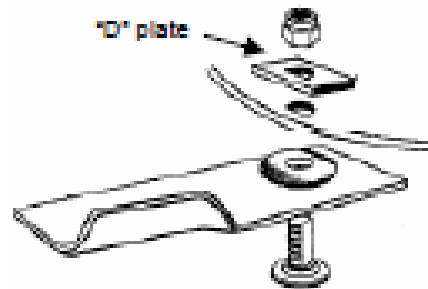

Figure 11. Blade Attachments
NB. Mowers fitted with a circular cutting disc must be fitted with a “D” Plate (as shown in figure 11). These parts are available from any **Rover Mowers** authorized service dealer or agent.
- Fit new blades and fasten in the correct order. Refer to figure 11.